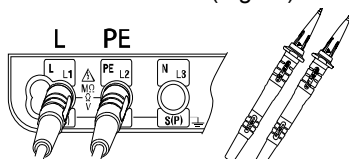

Fig.47
2. Umetnite test pipalice u instrument. (Fig.47)